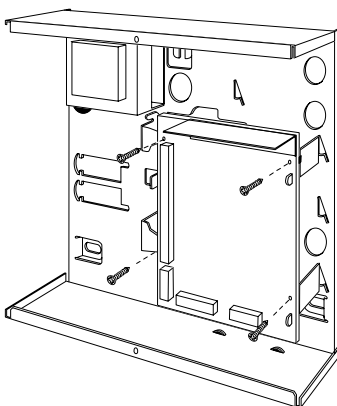

Figure 17. Fitting Control Unit PCB
5. Re-fit the PCB to the support pillars. Secure the PCB to the support pillars with the screws provided (Figure 17). Make sure that the bottom left corner of the PCB is seated on its support pillar.